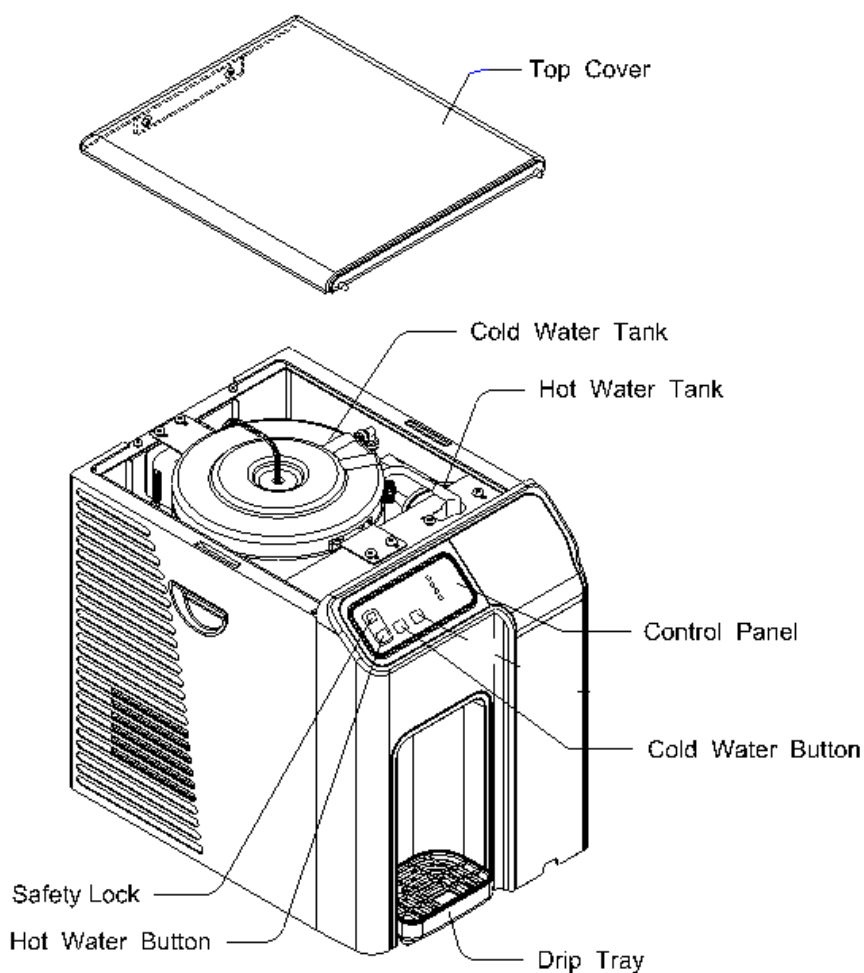

***Figure 2. Assembly Drawing Model G4 Counter Top***
| Figure 2. Assembly Drawing, Model G4.....        | 6  |
The G4 provides water at two temperatures. The water is dispensed from two spigots—one “hot” and one “cold.” The assembly drawing is shown in Figure 1 for the G3 and Figure 2 for the G4. Water flows from the filter system into the top tank, also known as the cold water tank. This tank then feeds the hot tank that is heated by internal heaters. The level in the cold water tank is controlled by a float valve mechanism. This mechanism controls a solenoid valve on the water feed line to maintain a constant level of filtered water. Both models are available with reverse osmosis (RO) or standard filter (F) versions.